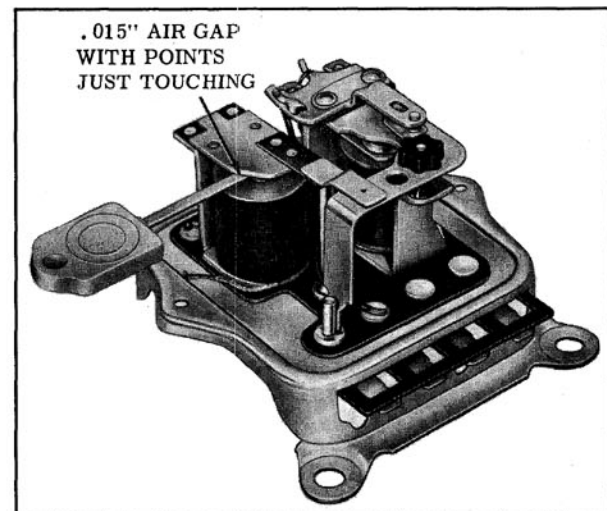

Fig. 13-22 Checking Field Relay Air Gap
3. Check clearance between the armature and core with the points just touching. Air gap should be .015". (Fig. 13-22)